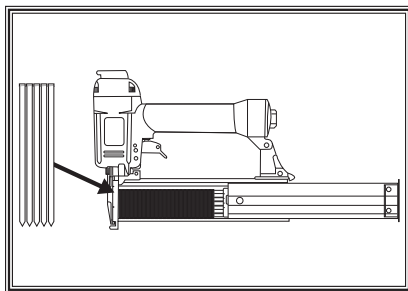

Figure 3. Loading nails into magazine.
4. Insert a strip of nails, pointed-end down, into the magazine, as shown in Figure 3.